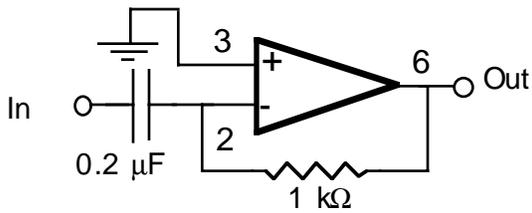

Figure 5
5) Differentiator (Fig. 5). This circuit differentiates the input voltage. Since the inverting input is at a virtual ground, the current flowing through the 1 k Ω resistor, and hence the output voltage, is proportional to the derivative of the voltage across the 0.2 μ F capacitor.